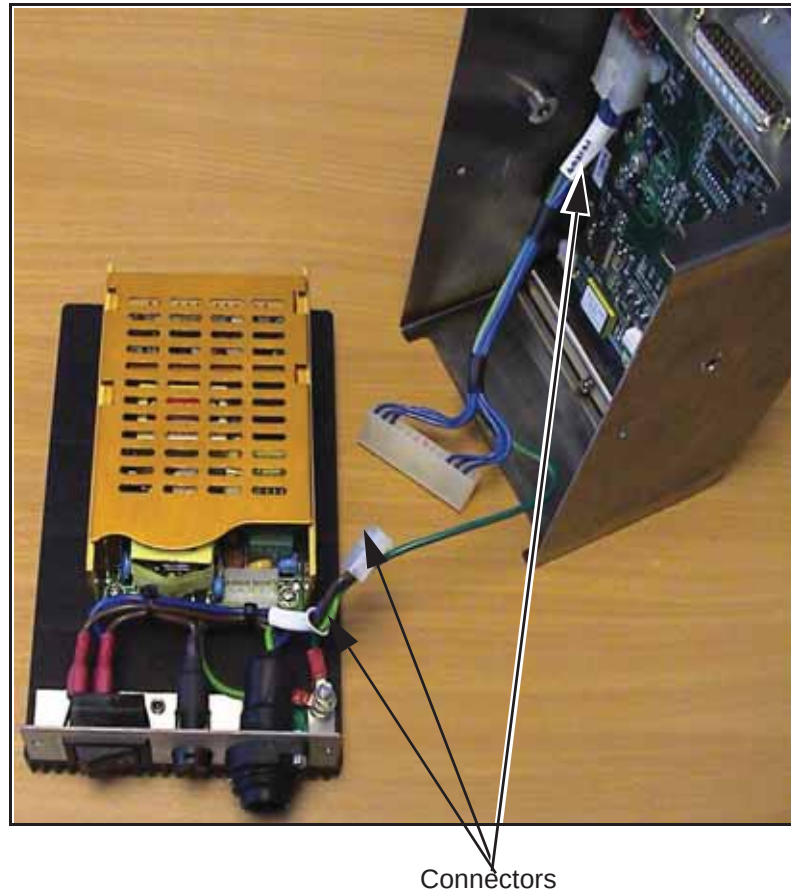

Figure 5-4: Power Connections Removal
- 2 Disconnect the white power connectors from the front and back of the PSU and from the main PCB as shown in Figure 5-4.